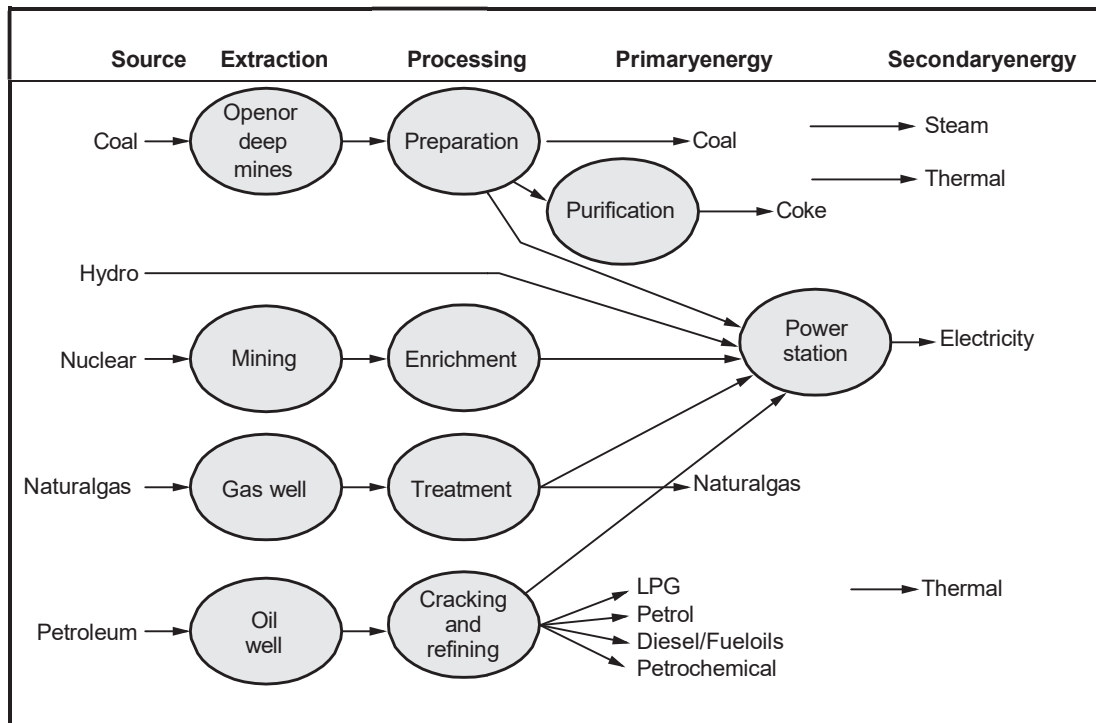

Fig. 1.2.1 Major primary and secondary sources
- The major primary and secondary energy sources are shown in Fig. 1.2.1.